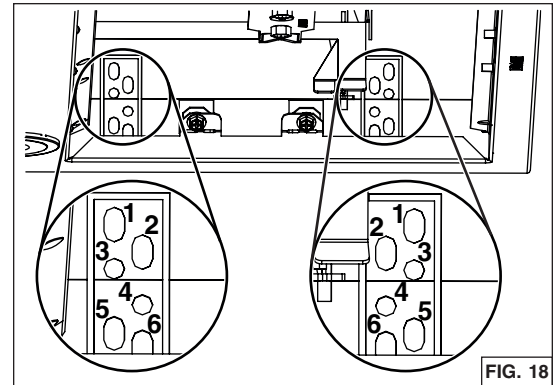

FIG. 18
- Lift the unit until contact is made between the unit flange and cabinet. Secure the unit to the cabinet using 4 no. 8 x 5/8" wood screws included in parts bag (2 screws per side). Use upper or lower holes (1, 2, 3, 4, 5, or 6) (FIG. 18).